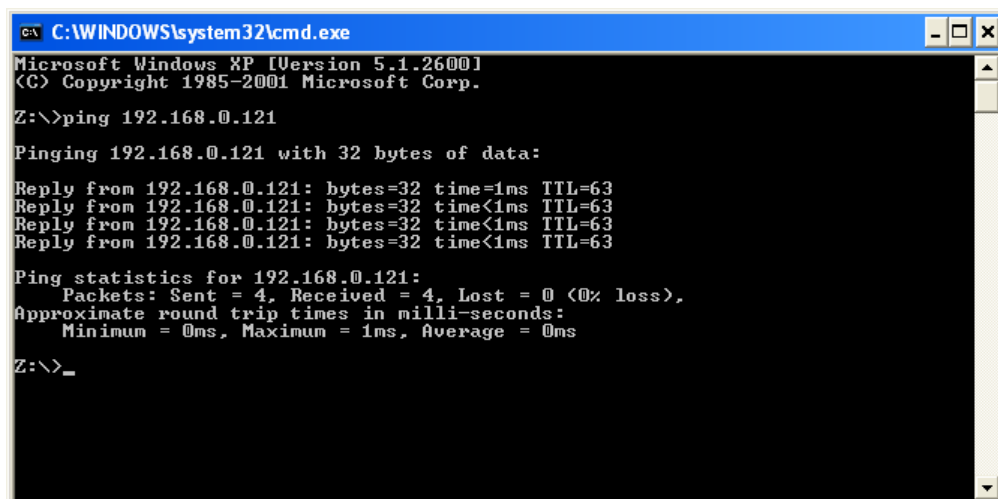

Figure 6.1-9 Reply to the ping 192.168.0.90 command
*Note. The IP-address is checked with the use of the command line (see 1st item of this instruction). If the IP-address is set correctly, then following message should be displayed in the command line window in reply to the **ping 192.168.0.90** command (Figure 6.1-9).*